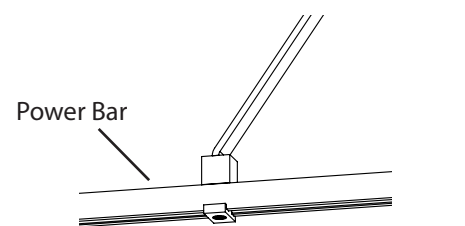

Fig. 4
4. Rotate **Power Bar** to the desired position and secure by fully tightening the **Hanger Sleeve** (Fig. 4).
5. Insert **Power Bar** onto the **Bracket** and reattach the **Bracket Cover** with **Flat Head Screw** (Fig. 4).